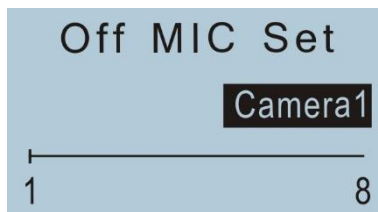

Figure 7.19
1. Select the camera ID number (1 ~ 8 cameras are optional) according to the menu sequence in Figure 7.19.